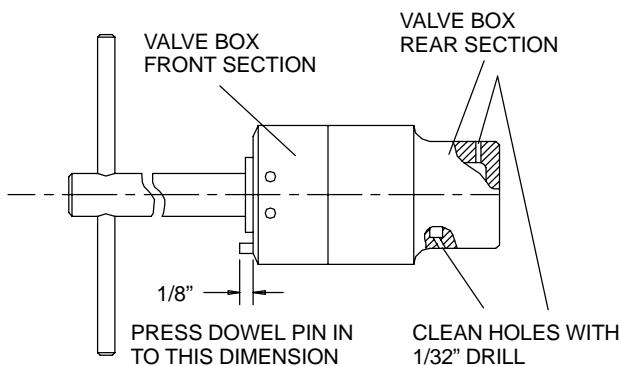

Figure 4
- f. Slide the rear section of the Valve Box over the Valve and assemble it on the front section as shown in Figure 4. Lap the Valve until it fits freely in the assembled Valve Box.
3. Apply 6 or 8 drops of light oil to the external surface of the Valve and assemble it with the Dowel Pin (1) in the Valve Box. Shake the assembly to see that the Valve moves freely in the Valve Box.